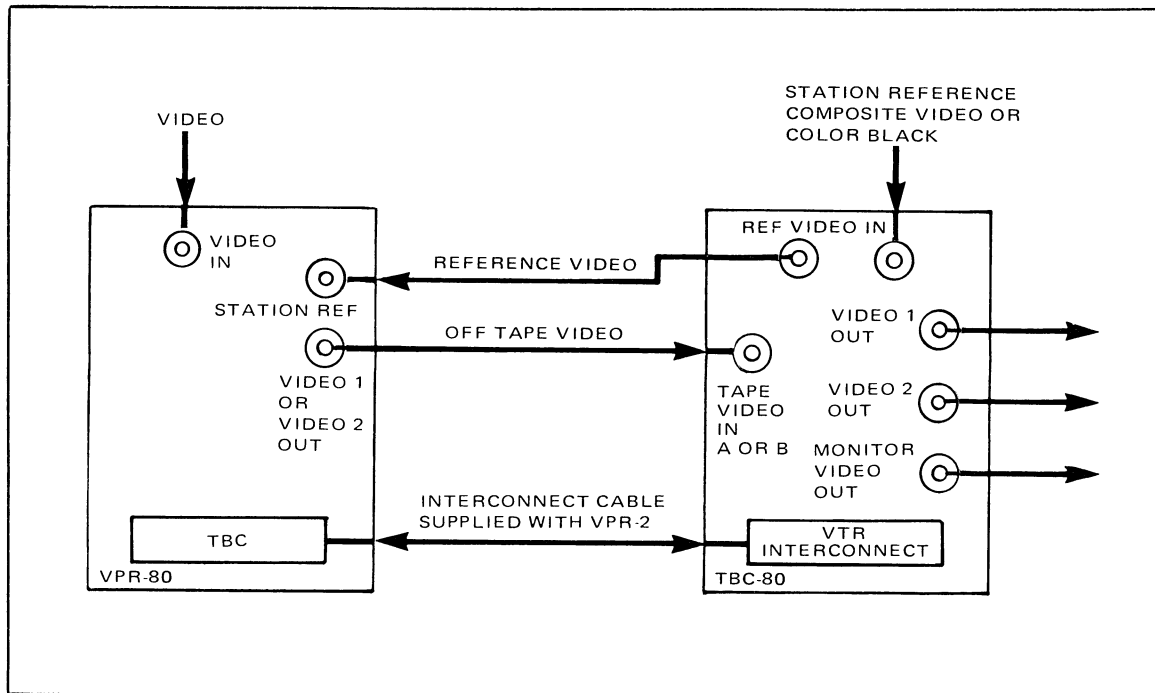

Figure 2-4. TBC-80 Interconnections
STEP 2 Interconnect TBC-80 with the VPR-80 as shown in Figure 2-4.